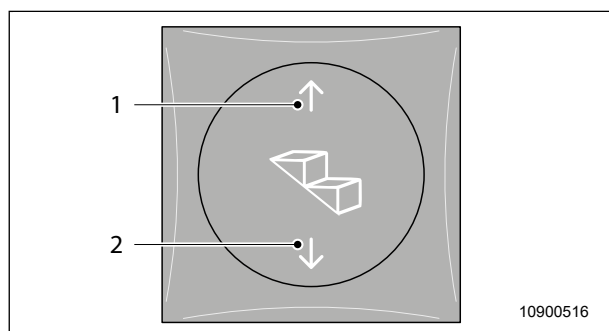

Fig. 3 Entrance step button - entrance door
1. To extend the entrance step, operate the sensor field (Fig. 3, item 1).
2. To retract the entrance step, operate the sensor field (Fig. 3, item 2).